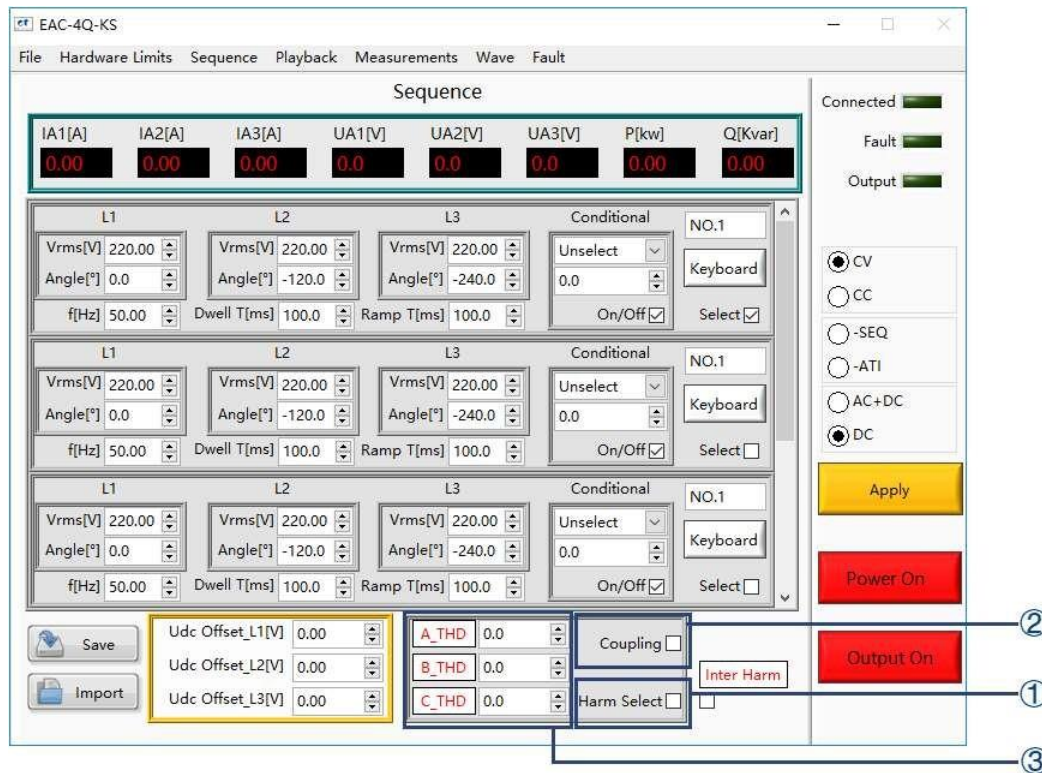

Figure 5-15 Harmonic Edit-1
Click "Sequence Mode" to enter the panel, firstly set the basic operating parameters (such as output voltage, frequency). Click "Apply"→"Power On"→"Output On" in turn, the power supply is on. Check the harmonic selection box (Figure 5-15①), click the A/B/C phase harmonic simulation button (Figure 5-15③), the harmonic setting panel of each order will automatically pop up, then the user can set the harmonic. After setting the parameters such as waveform angle and content, check the corresponding boxes and click "Setting" → "Apply" in turn.
To cancel the harmonic simulation, click the A/B/C phase harmonic simulation button (Figure 5-15③), click "Clear" on the pop-up panel to clear all parameters, and then click "Setting" → "Apply". Finally, uncheck the harmonic selection box.